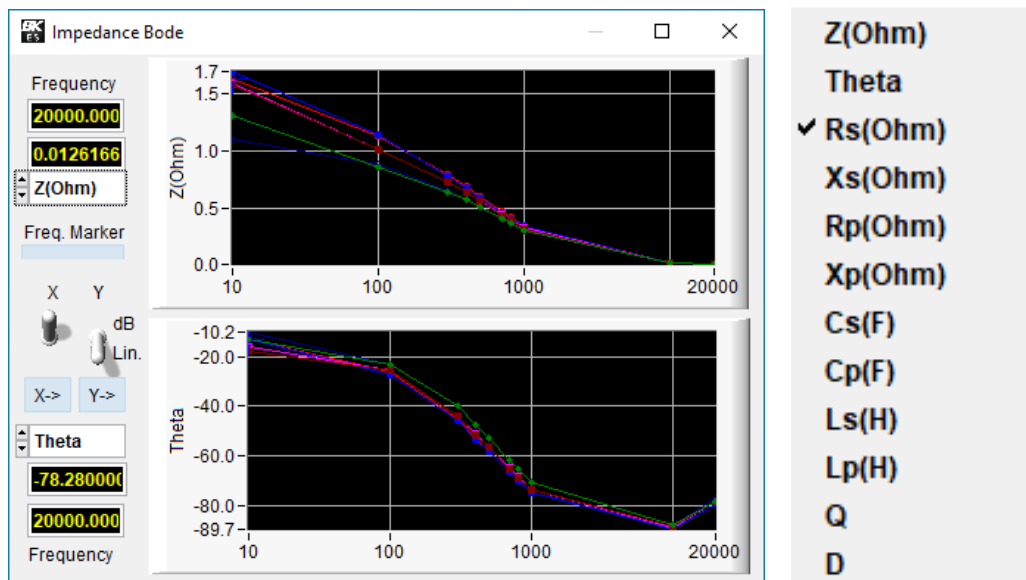

Figure 6.8 Bode Plot
- The parameters shown in **Figure 6.8** can be graphed.